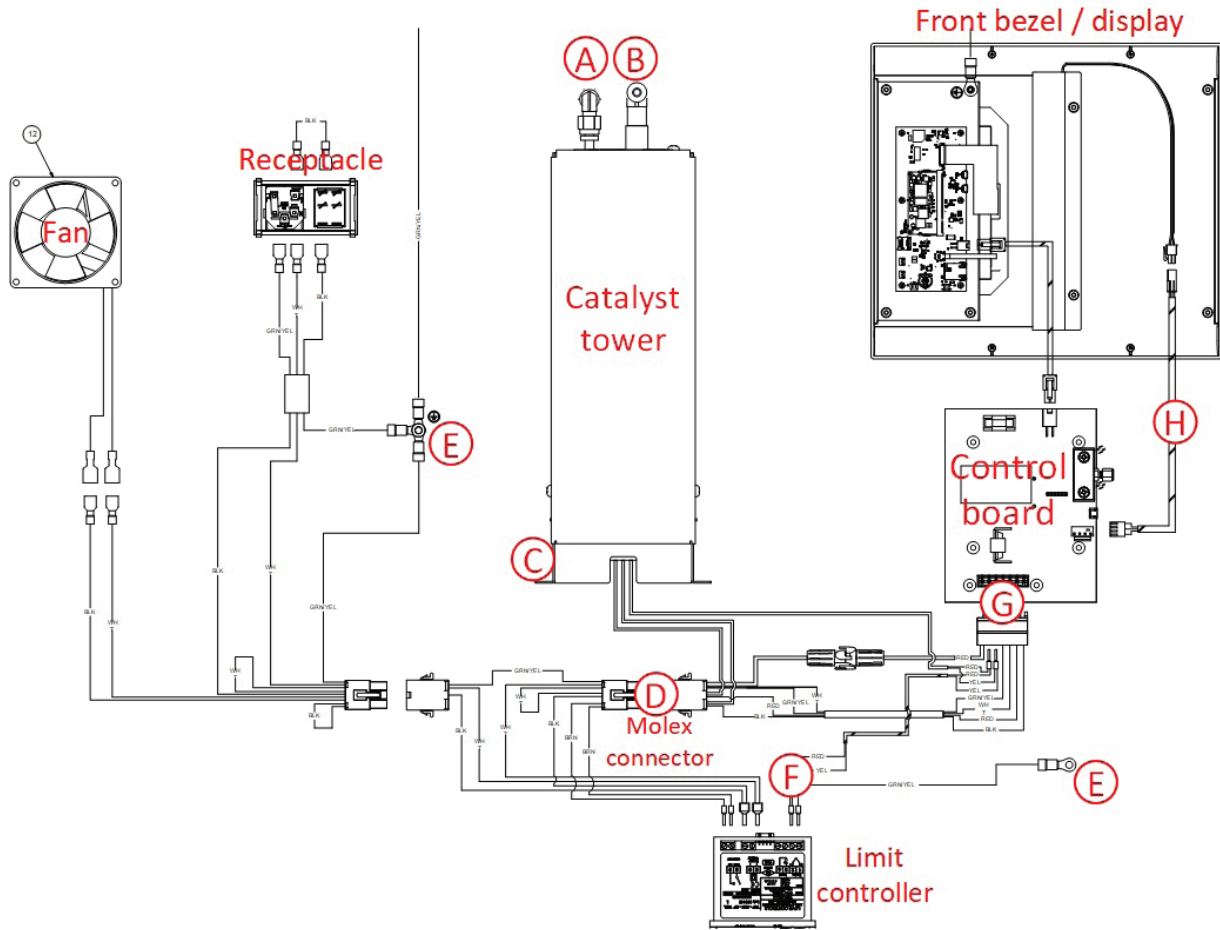

Figure 10 - Zero Air Generator - Electrical Schematic
8. Referring to “F” in Figures 10 & 11, use the small flat head screwdriver and fully loosen the two thermocouple wires at terminals #1 & #2 of the digital limit controller.
- b. Re-install the two thermocouple wires to terminals #1 & #2 of the digital limit controller (yellow wire is terminal 1 +ve positive and red wire is negative, terminal #2 – see Figure 10).